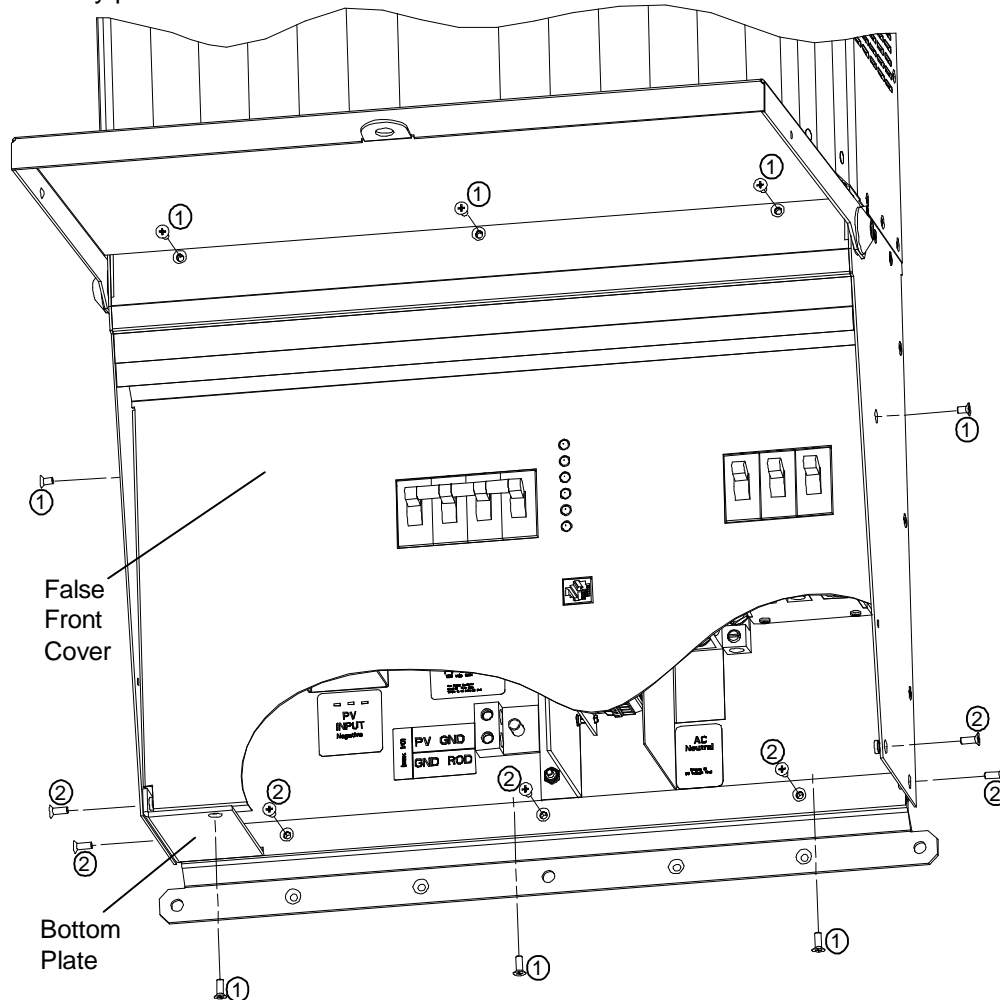

Figure 9: False front screws: ①
1. Remove the 8 screws marked with the symbol ① as shown in Figure 9.
See Figure 9 for removal instructions of the 7 screws to remove the bottom plate. The screws are marked with the symbol ②. Once the plate is removed, punch the necessary holes for the conduit connections